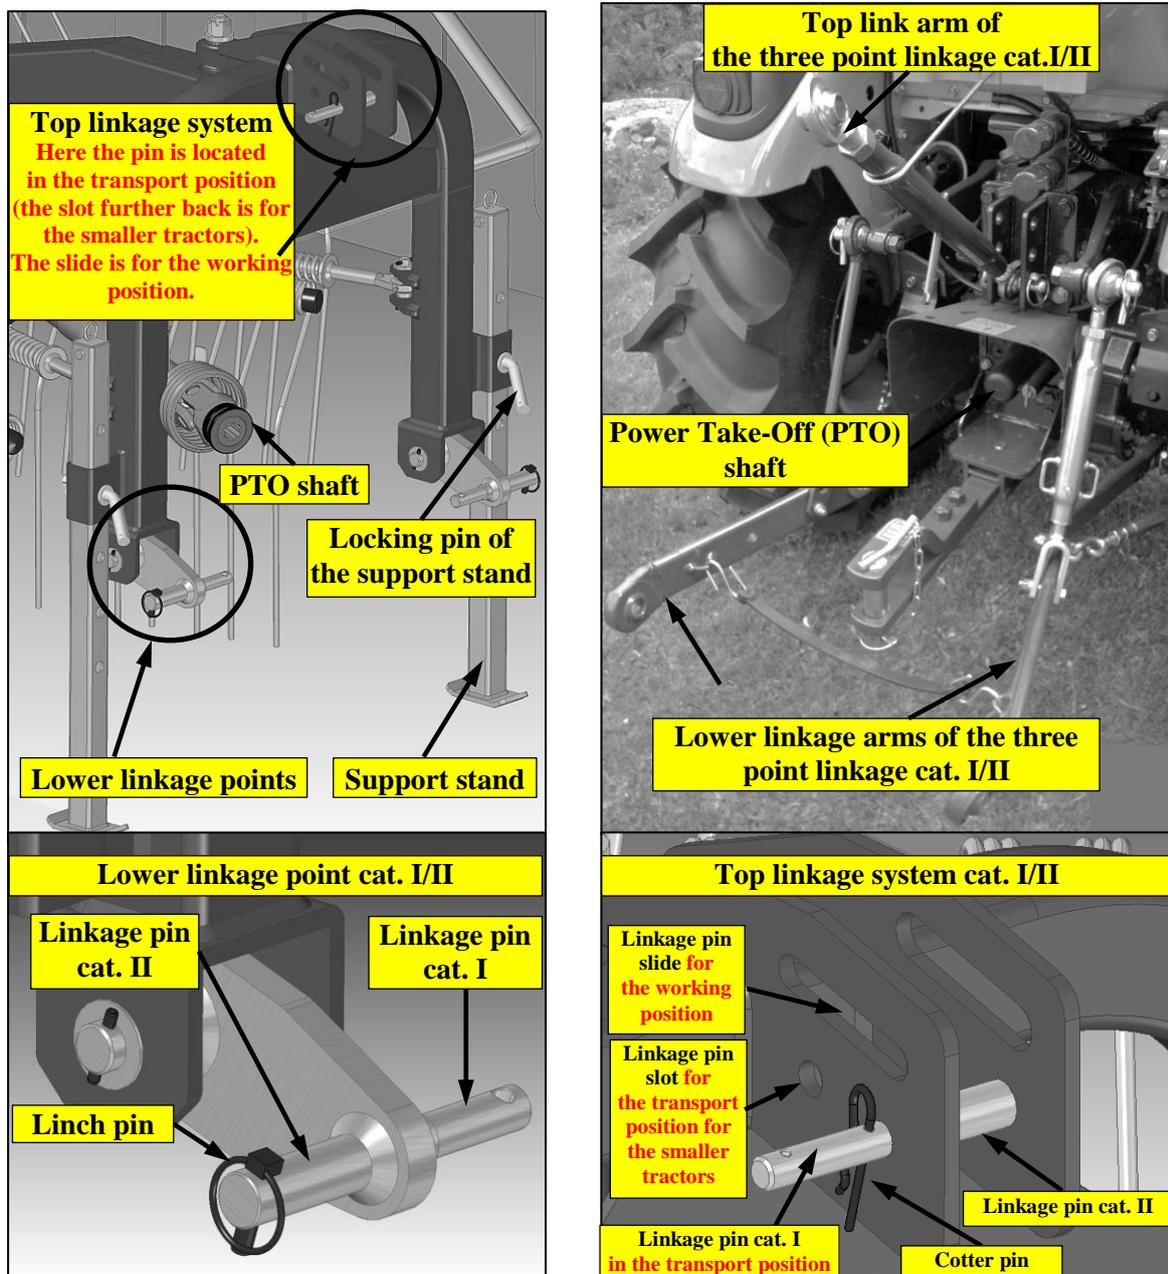

Figure 11. Linking of the hay rake to the tractor.
- Release the top link arm from the transport lock and connect it to one of its fixed position holes on the headstock. Secure the top link using the linkage pin of category matching the category of the three point linkage on the tractor (see figure 11 above). Secure the linkage pin with a cotter pin. **Note that the slide is only to be used in work.** Use of the slide in transport can cause serious damage to the machine as a result of unnecessary stresses transferred to the main pivot pin. **Always use the correct slot for transport / work.**
- Put the top linkage pin in the slide for the work position (see figure 11 above). When the machine will be raised, e.g. on the headlands, the pin will slide in the slide to its maximum position and the steering rods will compress locking the machine from pivoting. Beware of clearance margins between the headstock and cab fixtures when lifting with the very short top link.